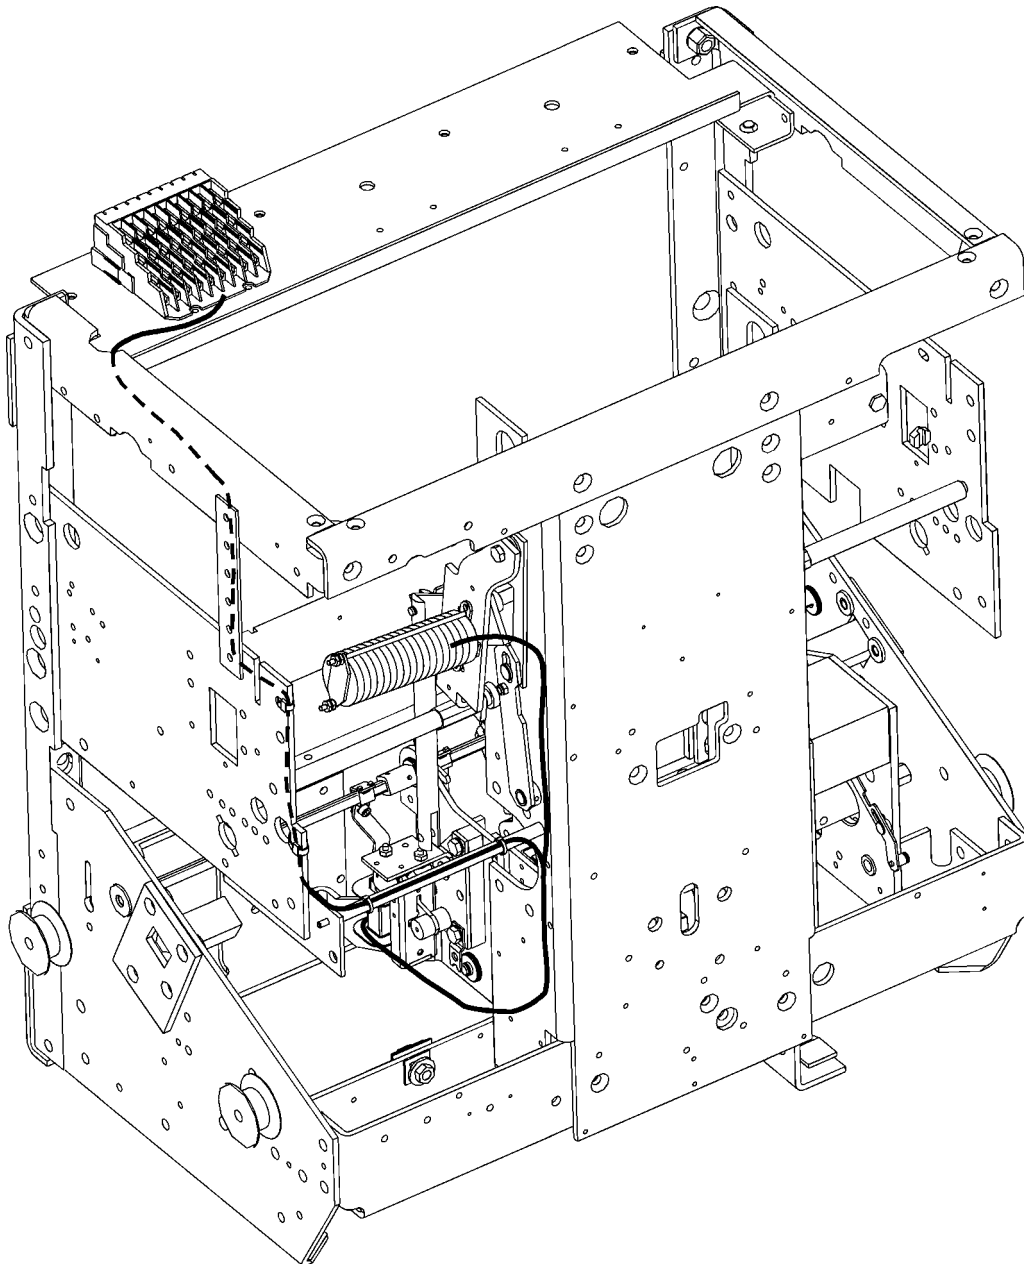

Figure 5. Path for routing wires from the Shunt Trip to the secondary disconnect and auxiliary switch.
7. Route the wires from the Shunt Trip as shown in Figure 5. Run one wire to the Auxiliary Switch and connect it to terminal 5C. Run the other wire to the secondary disconnect A block, terminal 7. Cut both wires to the appropriate length and crimp on the terminals provided (the right-angle flag to the Auxiliary Switch, the spade terminal to the secondary disconnect). Figure 6 shows the secondary disconnect numbering scheme, as seen from the front of the breaker, with the Shunt Trip terminal in bold.